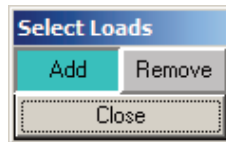

Figure 2.10 Select Loads
- For a Control Load Status group press "Edit Control", select "Add" or "Remove" from the control prompt in figure 2.10, then click on the load icons you want in the group from the icons on the screen, the selected icons will blink. select close when done.